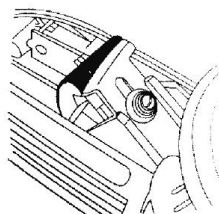

Figure 7
2. Pull the Lower Blade(21) from the machine. See Figure 7. Please note if you have trouble removing the lower blade, remove the Manual Lever one side to the other side and this will raise the blade.